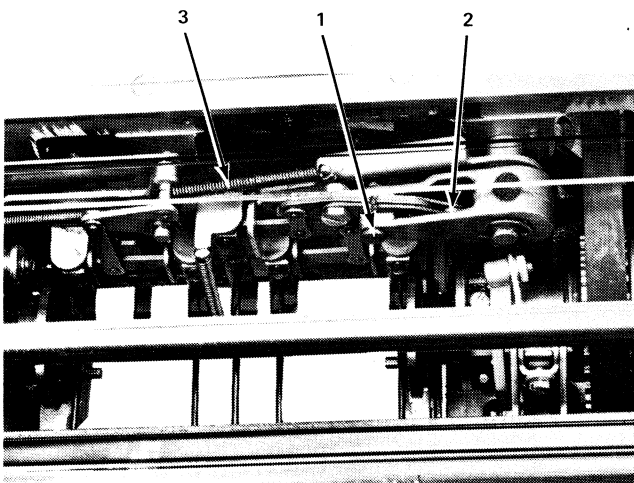

Figure 4-30. Rotate Selection Differential Removal (Top of Printer)
9. Disconnect the tilt-differential spring (No. 3, Figure 4-30).
11. Remove the balance-arm mounting stud (No. 1, Figure 4-30).
12. Disconnect the minus-five bail drive link from the right end of the balance arm (No. 2, Figure 4-30).